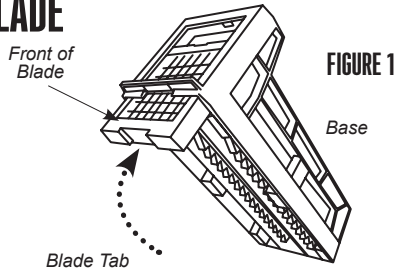

FIGURE 1
1. Insert the Blade, Blade Tab end first up through the slot in the bottom of the Base. The front of the Blade will face outwards (**FIGURE 1**). The Blade will click into place.